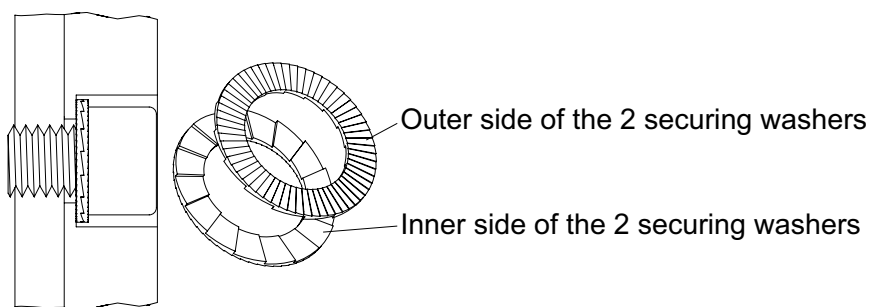

Figure 5 Correct fitting position of the Nord-Lock® securing washers
**ATTENTION** Ensure that the fitting position and tightening torque of the Nord-Lock® securing washers is correct as in Figure 5 and table for tightening torque!
- Lightly grease the propeller boss and shaft end. Check key (7/19) for wear or damage and replace if necessary.
- Press on the securing rings (7/106) in the correct installation location (see Figure 5).